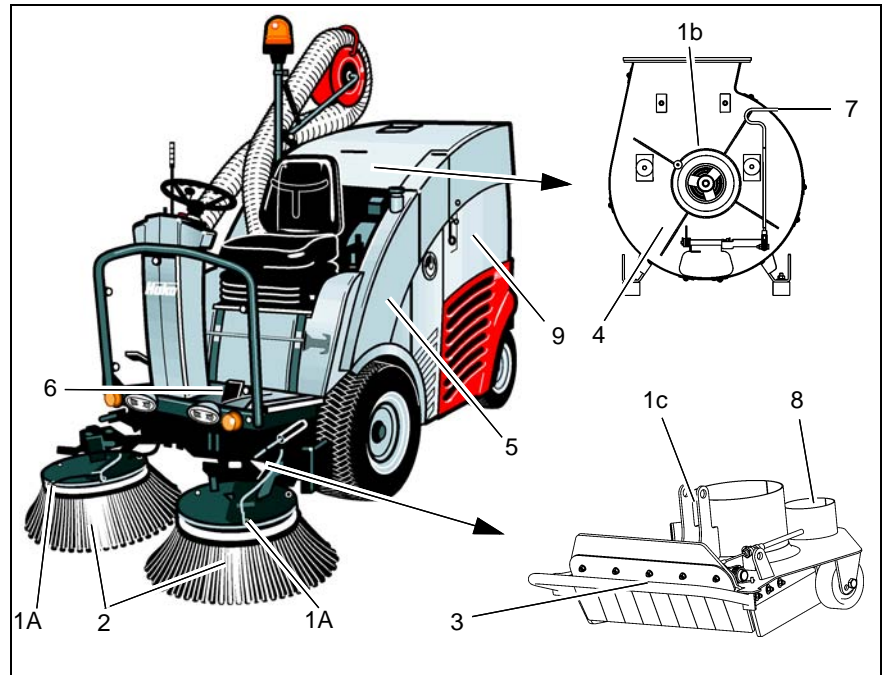

Fig.20
Check the spray jets (Fig. 20/1) on the circular brushes and suction pipe supports of the suction turbine daily for accumulations of dirt, clean as necessary. Switch the solution pump on briefly to check the spray jets.
3. Lower the vacuum nozzle (Fig. 20/3) and close the coarse particle flap.
6. Open the cleaning flap (Fig. 20/7) on the suction turbine and clean the suction turbine. Close the cleaning flap.
7. If necessary, clean the return air flow section (Fig. 20/8).